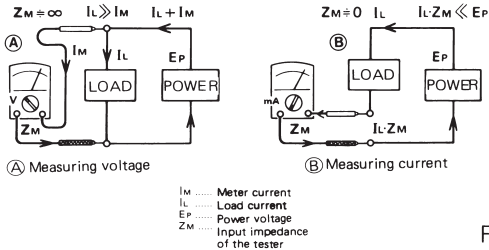

Fig. 1
Fig. 1 (A) is a standard measuring way of voltage while Fig. 1 (B) a standard measuring way of current. Voltage measurement is to detect the potential difference between two points, so the voltage range must be connected in parallel with measured circuit.
5. Connect the tester range in series with measured circuit through load as Fig. 1 (B). Be sure not to apply any voltage to DCmA ranges.